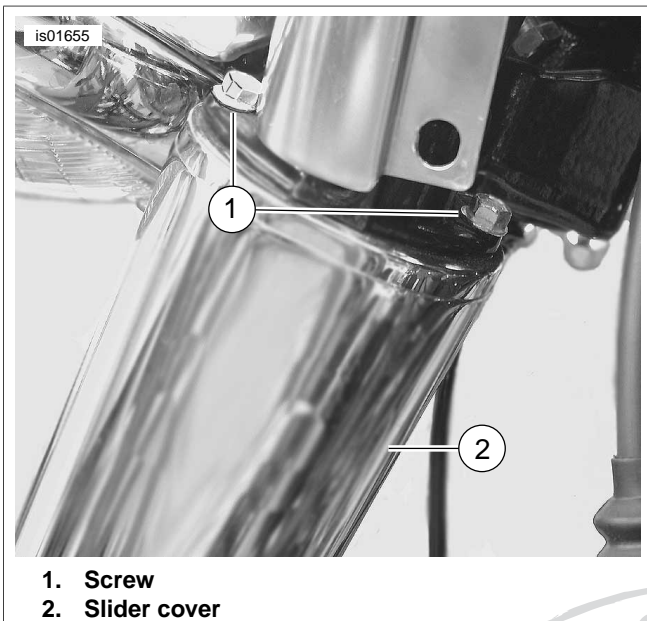

Figure 2. Slider Cover
8. See Figure 2. Remove the two screws (1) securing the existing slider cover (2) and remove and discard cover. Save screws for installation.